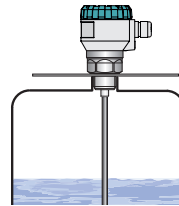

Fig. 7: Installation in non-metal tank
- To install the level meter in a non-metallic water tank, it is necessary to insert a metal plate with a diameter greater than 200 mm in the area of the process connection, see fig. 7. The metal plate must be in contact with the thread stop of the level meter.